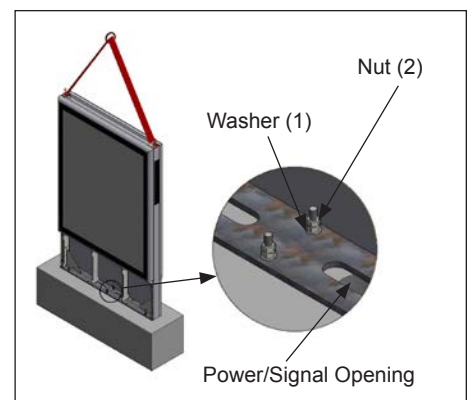

Figure 8: Mount and Secure
6. Lift display and position it above the anchor points on the permanent base. Refer to **Figure 8**.
7. Level the display and secure the display to the anchor points with a washer (1) and nuts (2) per bolt as shown in **Figure 8**.